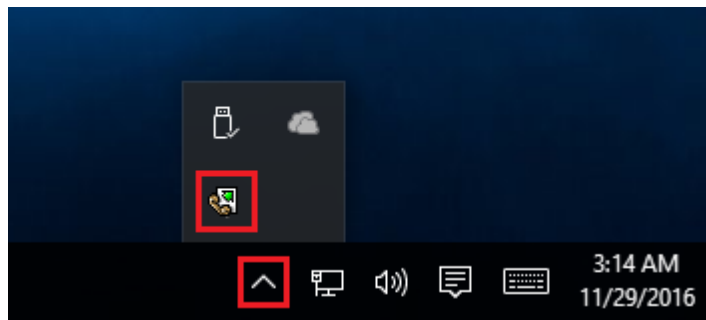

Fig. 6.1.2 Systray - panel near clock
- **Start in minimized state** - at start Serial Printer Logger will automatically put its icon on panel near clock (SysTray fig. 6.1.2);